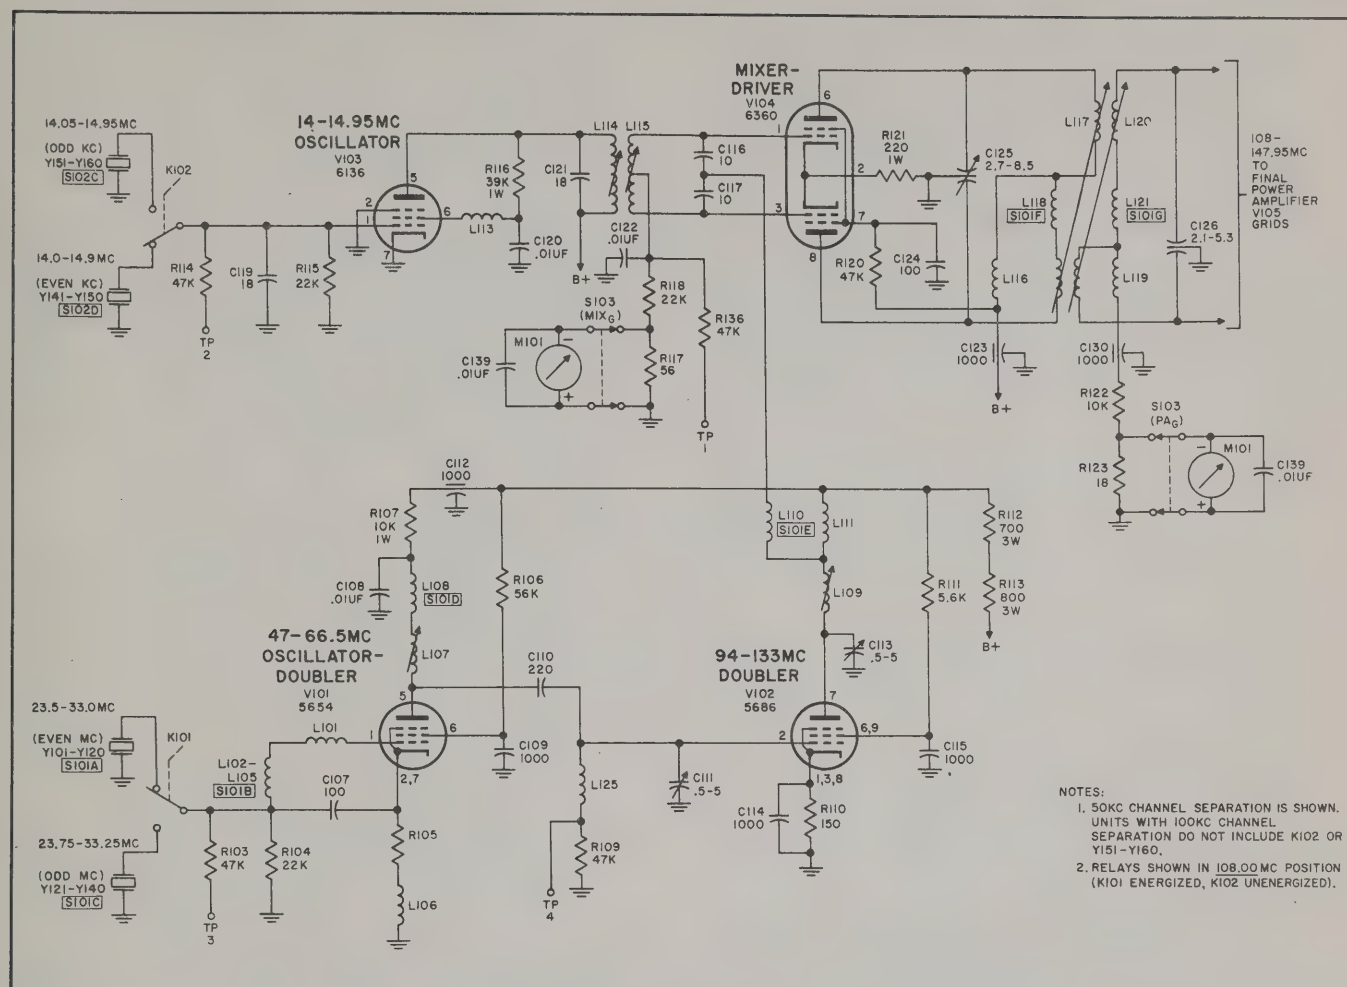

Figure 2-3. Transmitter Frequency Generating Circuits, Simplified Schematic Diagram
The range of frequencies at each significant point in the circuit is shown for clarity in Figure 2-3. The switch section by which crystals or tuning inductances are selected are shown on the simplified diagram, so that the diagram can be more readily related to the main schematic diagrams. For a complete tabulation of the frequencies present at each point in the circuit for any given transmitter output frequency, refer to paragraph 6b of this section.
(1) Oscillator-Doubler V101 (See Figure 2-3)
(2) Doubler V102 (See Figure 2-3)
(3) Oscillator V103 (See Figure 2-3)
(4) Mixer-Driver V104 (See Figure 2-3)